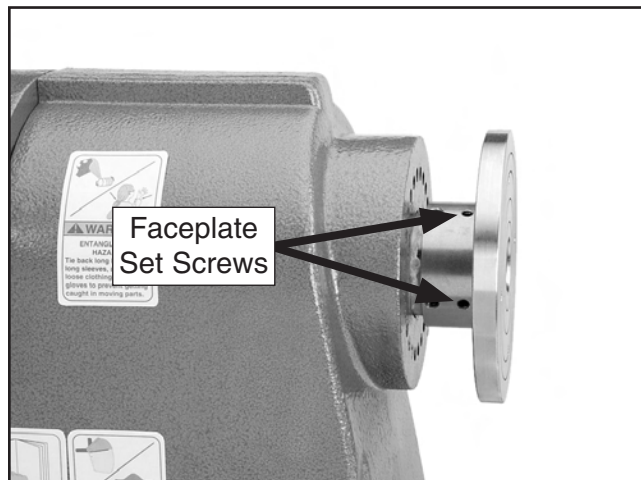

Figure 20. Headstock faceplate set screw.
5. Tighten the four faceplate or handwheel set screws just behind the faceplate to secure it to the spindle (see **Figure 20**).